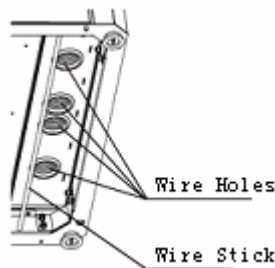

Figure 5-8 Wire Stick
1. Connect the power wire, ground wire and communication network wire through the wire holes of the left and right sides of the operation desk bottom cover plate into the operation desk. There is a wire stick near the wire holes to tie and fix the wires. As shown in Figure 5-8.